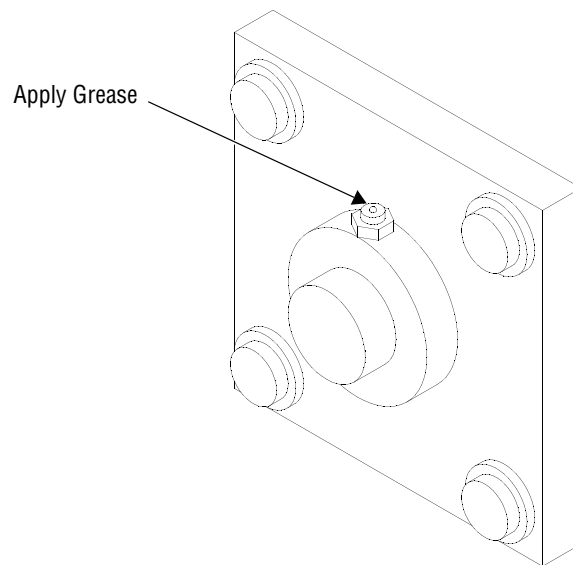

Figure 5-6. Grease Conveyor Bearings
3. Apply two gun strokes of lithium-base grease to each bearing cup (see Figure 5-6). Refer to *SECTION 7, REPLACEMENT PARTS AND PRODUCTS*, for ordering information.